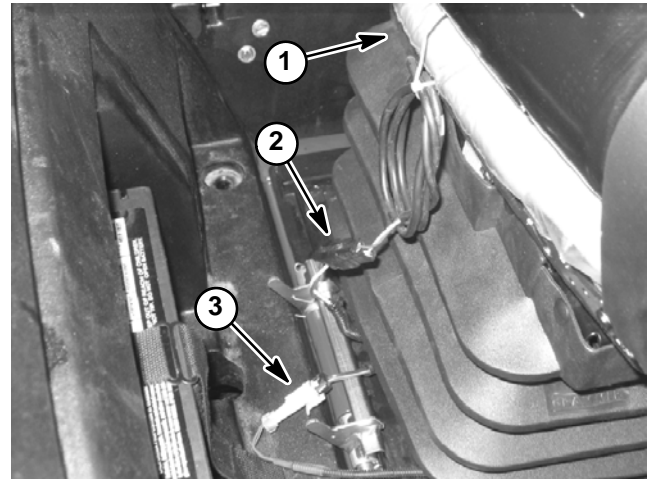

Figure 6
A. Disconnect seat electrical connectors from machine wire harness (Fig. 6).
3. Connect seat electrical connectors to machine wire harness (Fig. 6).